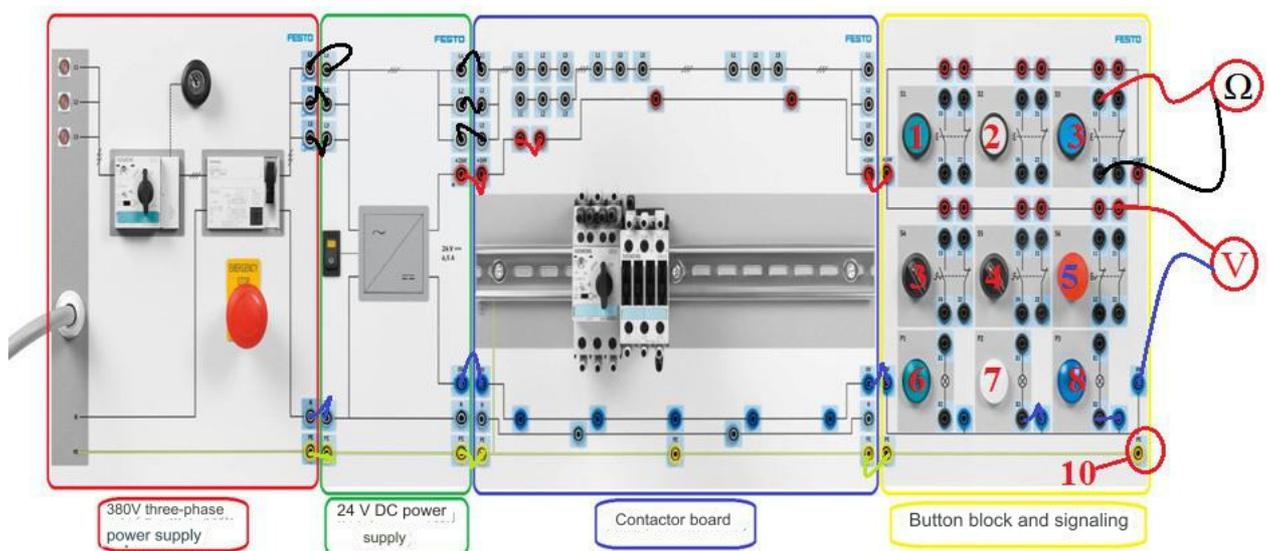

Figure 1: FESTO experimental panel
2. Implement basic universal logic functions using the components in experimental panel of Figure 1.
4. Create basic electrical circuits using of the components of the experimental panel shown in figure 1. 3.1
- b- Make the circuit on the experimental panel (figure 1).
- b- Make the circuit on the experimental panel (Figure 1).
- b- Make the circuit on the traffic sign (figure 1).